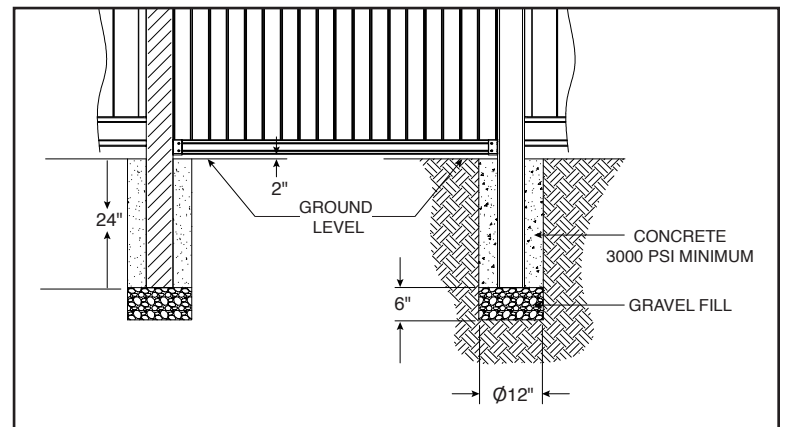

Figure 3
- Check measurement of fence. Actual size of the panel varies by description and model number. See Figure 2 for specific panel dimensions. Use a string line to insure all post holes are in line and verify spacing between holes. **Double check all measurements!** Install posts in ground as shown in Figure 3.